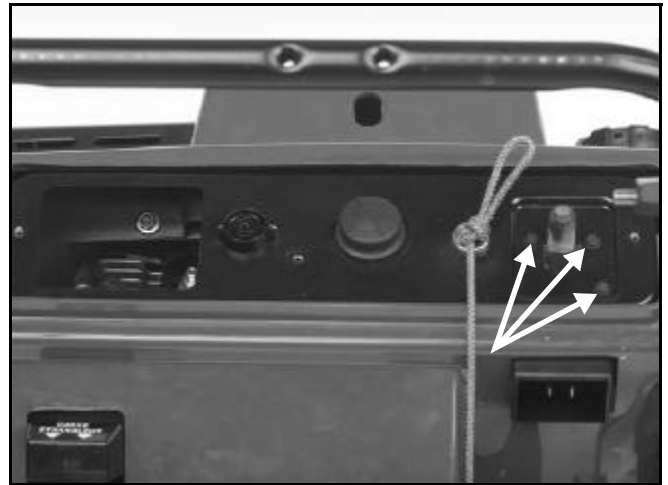

Figure 132 1854-37
4. Remove the three bolts (Figure 132) to the starter switch box.